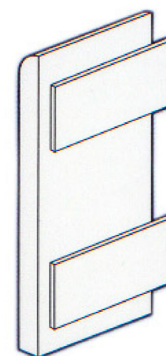

Fig 2 On broad trim, it is better to apply two thinner strips of tape
- For broad trims it is better to use two thinner strips of illbruck TN111 rather than a single wide strip. (Fig. 2)